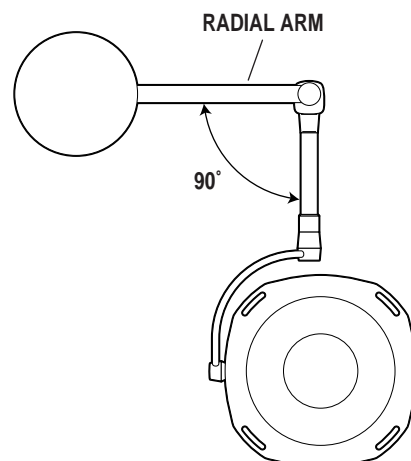

Figure 7.
2. Using the positioning handles, rotate the lighthead around the vertical support until the lighthead is at an approximate 90° angle to the radial arm. See figure 7.